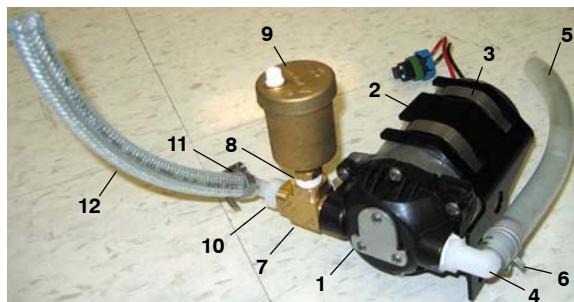

Fig. 20
- Assemble the *ec-H2O* pump assembly as shown (Figure 20). Use a thread sealer tape on all fittings.
#### Pump Assembly Parts List (Figure 20)